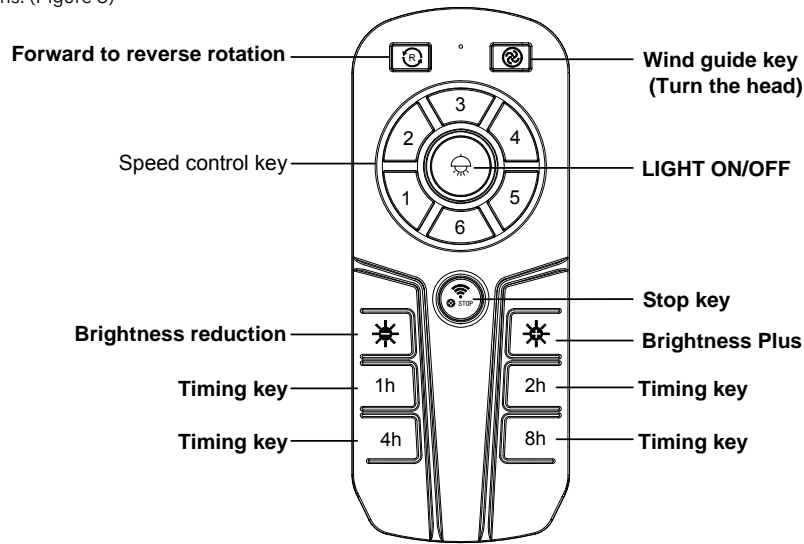

Figure 5
- Remote functions: (Figure 5)